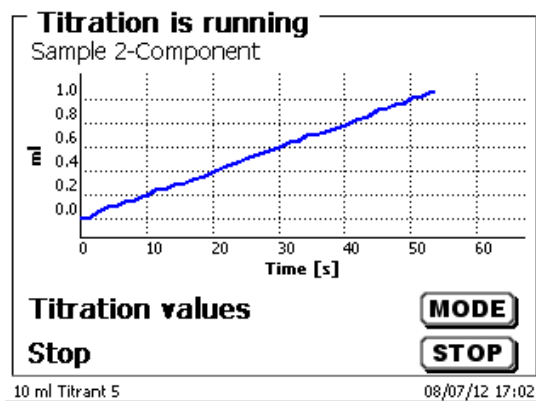

Fig. 71
- or the titration curve in ml/time [s] appears (Fig. 71).